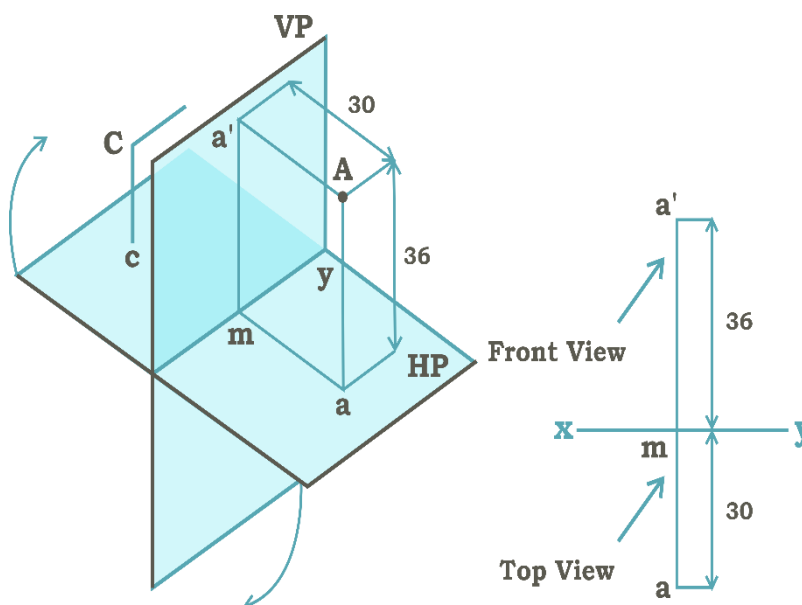

Fig. 2.16: First quadrant
- Project their Front View (FV) and Top View (TV) based on their relative position to HP and VP.
A point (A) above HP and in front of VP (first quadrant)- Fig. 2.16